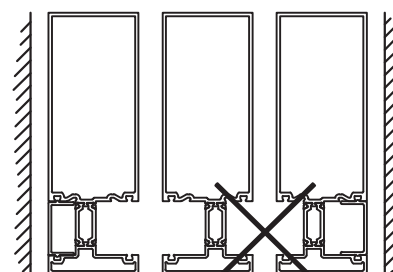

**Figure 1**
- 1.2 Cut material to size. **SEE FIGURE 1** for guide. NOTE: Layout vertical mullions so that two shallow pockets will not be adjacent to each other. **SEE MULLION LAYOUT below.**